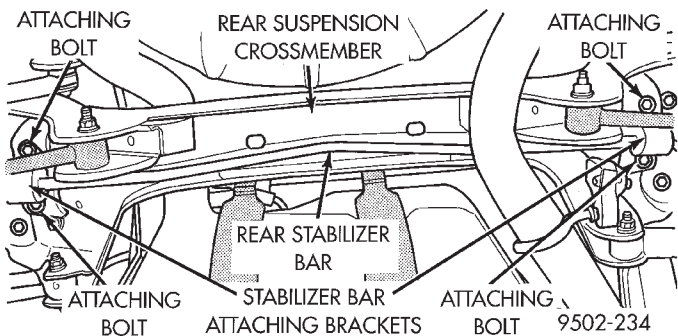

Fig. 7 Stabilizer Bar Attachment To Rear Suspension
- (4) Remove the 4 bolts attaching the stabilizer bar bushing clamps to the rear suspension crossmember (Fig. 7).
- (5) Remove the rear stabilizer bar to crossmember bushing clamps and bushings from the stabilizer bar.
- (6) Remove stabilizer bar from vehicle. Stabilizer bar will come out of vehicle between the exhaust pipe and the rear suspension crossmember.
(6) Tighten the bolts attaching the stabilizer bar bushing clamps to the rear crossmember to a torque of 27 N·m (19 ft. lbs.) (Fig. 7).
(7) Install wheel and tire assembly on vehicle. Tighten the wheel mounting stud nuts in proper sequence until all nuts are torqued to half specification. Then repeat the tightening sequence to the full specified torque of 135 N·m (100 ft. lbs.).
(8) Lower vehicle to the ground.